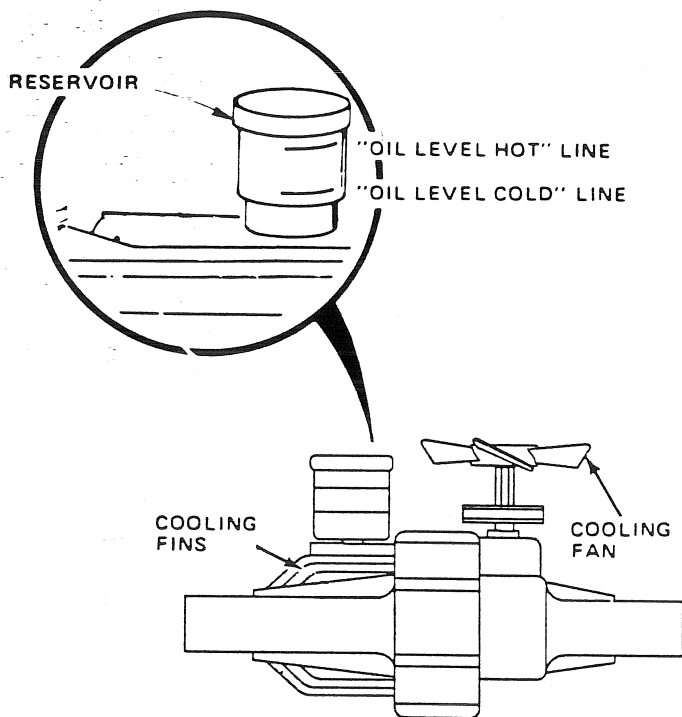

FIGURE 18
- e. Remove cap on reservoir, and bladder (Fig. 18), and fill to "Oil Level Cold" line with SAE 10W30. NOTE: RESERVOIR CAP IS REMOVED WITH A CLOCKWISE ROTATION.
- a. Inspect Cooling Fan (Fig. 18) to assure fan blades are intact and clean.
- b. Inspect Coolings Fins (Fig. 18) for dirt, grass clippings and other material that could hinder fan air from properly cooling transmission.